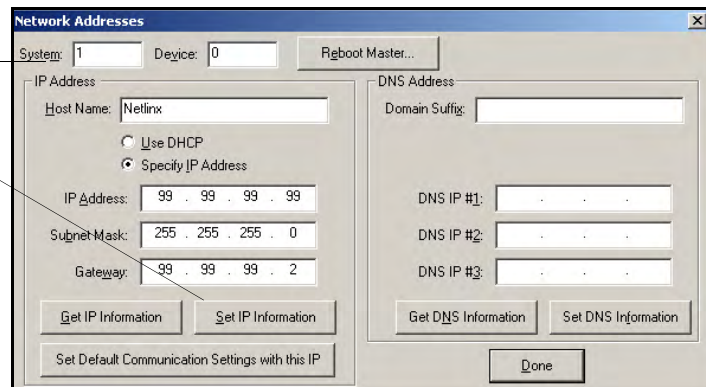

FIG. 27 Network Addresses dialog (showing Set IP)
5. Click the **Specify IP Address** radio button from the IP Address section (FIG. 27).